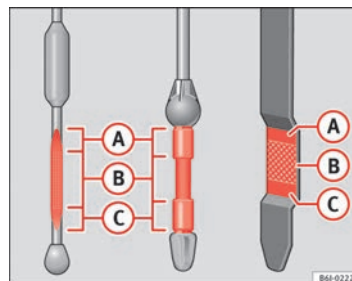

Fig. 162 Engine oil dipstick
- Then pull it out once more and check the oil level ⇒ Fig. 162. Top up with engine oil if necessary.